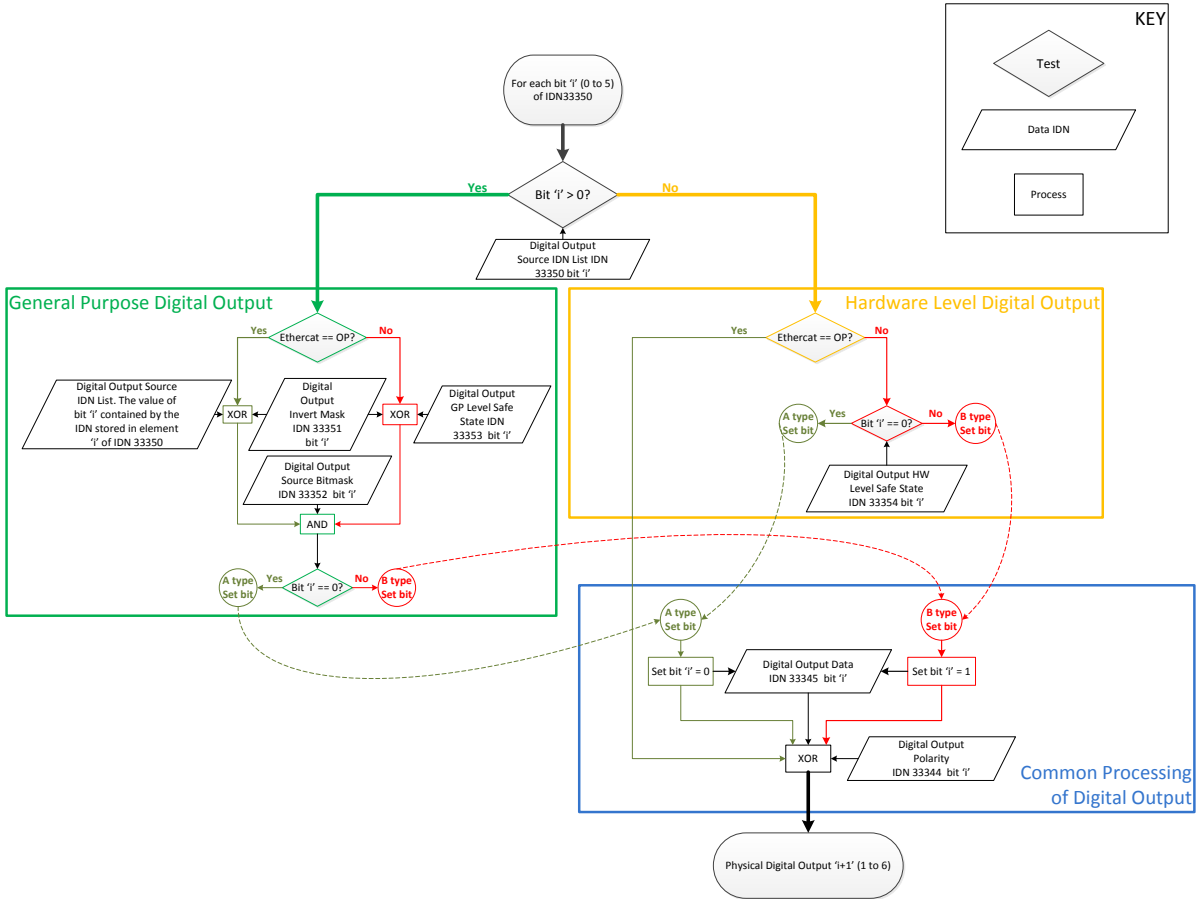

Figure 10-5 Digital Output Configuration Flow Chart
The details of the process by which the digital outputs are set is described below, and represented graphically in Figure 10-5. Clearly the bits in IDN 33350 are critical in determining whether the corresponding digital output is referred to as “General Purpose,” or as a “Hardware Level” digital output. These variables can be accessed through the Advanced Parameter Access interface in ANCA MotionBench.
- If alternatively the element of 33350 is zero, and the drive is in normal operation (OP), then the corresponding bit in 33345 will **NOT** be overwritten, and the information that is already contained in 33345 will be relayed to its associated digital output (again, assuming no further bitmasking is being applied by IDN 33344).
- has a similar role to 33351, except this IDN is compared to the output of 33351's XOR by using AND logic as shown in Figure 10-5 . The combination of logic using comparisons to 33351 and 33352 can therefore be used to configure quite general logic.
- is the default setting for the General Purpose digital output safe state (ie. when not in EtherCAT OP state) if all other bitmasking is set to pass this IDN's value straight through to 33345, and then to the digital outputs directly. Figure 10-5 . shows that this default safe state value can be altered by 33351, 33352, and 33344. Recall that because it is General Purpose, its bit setting applies ONLY to those digital outputs for which a non-zero value in IDN 33350 has been chosen.
- is the default setting for the Hardware Level digital output safe state (ie. when not in EtherCAT OP state) if all other bitmasking is set to pass this IDN's value straight through to 33345, and then to the digital outputs directly. Figure 10-5 shows that this default safe state value can be altered by 33354 and 33344. Recall that because it is a Hardware Level setting, its bit setting applies ONLY to those digital outputs for which a zero value in IDN 33350 has been chosen.
**Equivalent Pseudo Code for Figure 10-5**